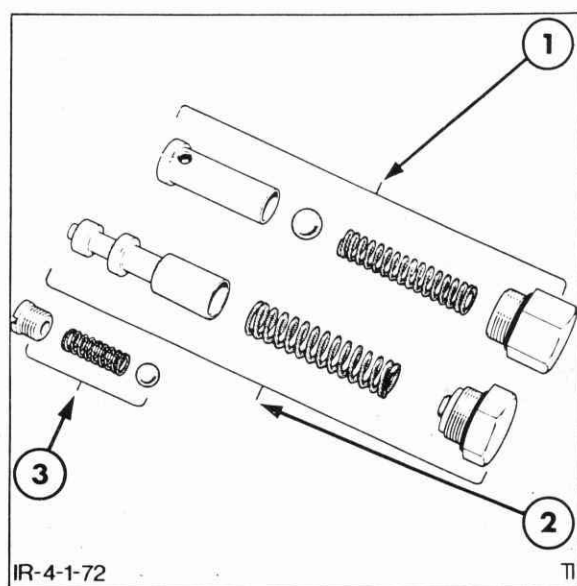

Figure 4-175
7. Inspect the by-pass valve seat and ball for scratches and pitting, Figure 4-175. If
8. Inspect the regulating valve spool, Figure 4-175, for excess wear, grooves or scratches that may cause the spool to malfunction. If scratch marks cannot be removed by polishing, install new parts during assembly. Check the spring and if suspect, measure spring dimensions as follows: